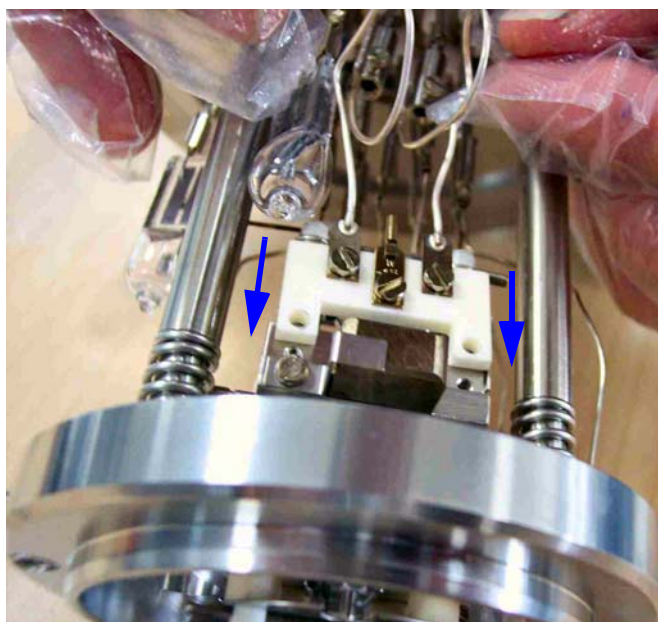
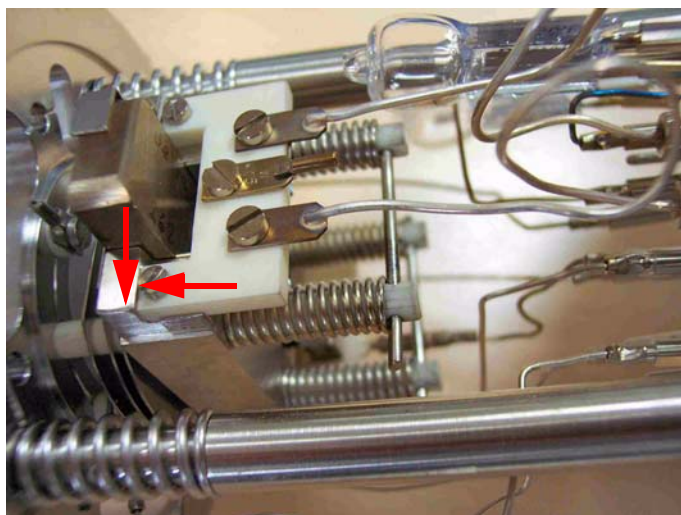

Figure 7-8. Pushing Filament Carrier along Guide Tracks
Figure 7-9. Proper Adjustment at Edges
3. The new unit must fit to the edge of the housing. Afterwards, tighten the screws. See Figure 7-8.
See arrows in Figure 7-8 and then in Figure 7-9 for proper adjustment of the edges. This ensures that the filament will fit correctly later on.